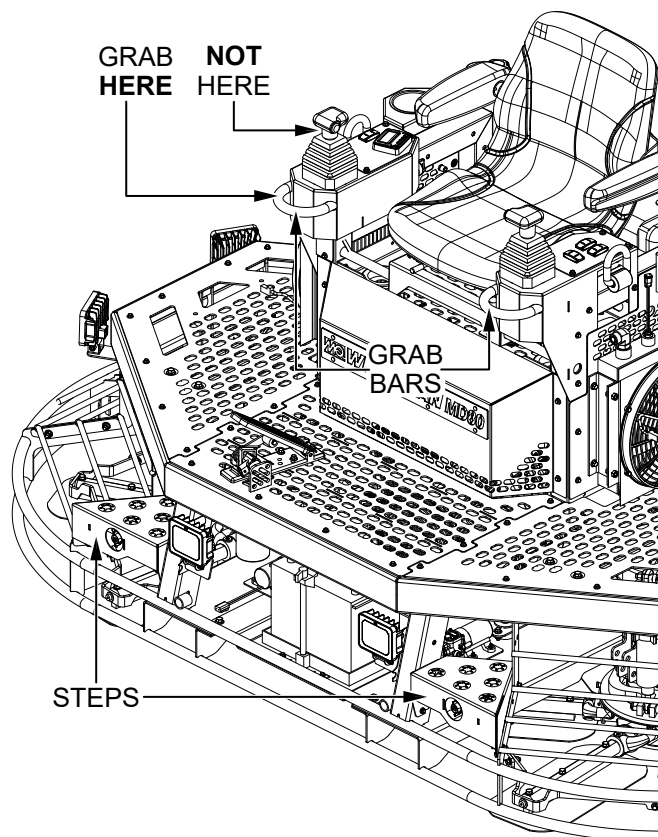

Figure 17. Grab Bars
- Visually inspect the level of hydraulic oil in the **hydraulic oil reservoir** (Figure 17). Hydraulic oil should be visible between the **MIN** and **MAX** lines on the reservoir.
1. While standing in front of the trowel, grasp one of the **grab bars** and place a foot on one of the **steps**. Lift yourself onto the trowel platform and sit down in the operator's seat (Figure 17).